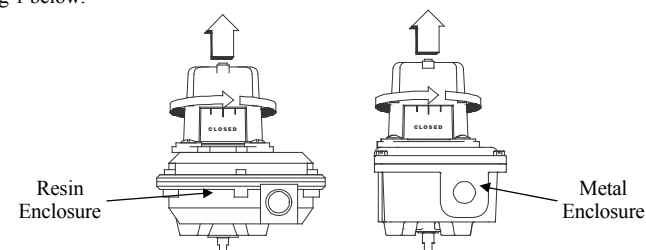

Fig 1
- 1.4 To release the cover, loosen the cover retaining screws. Twist the cover approx 45° and lift up. See fig 1 below.